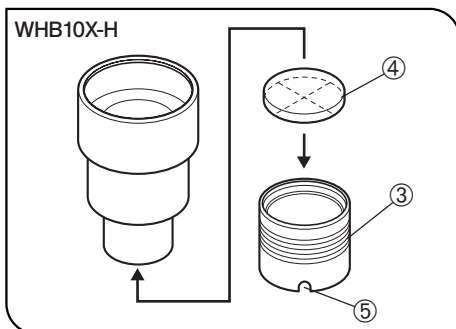

Fig. 17
⊙ When the WHB10X-H (or WHB10X) eyepieces are used, an eyepiece micrometer disk with a diameter of $\phi 20.4$ mm and thickness of 1 mm can be inserted in one of them using the 20.4RH reticle holders ③ (2-piece set). (Fig. 17)